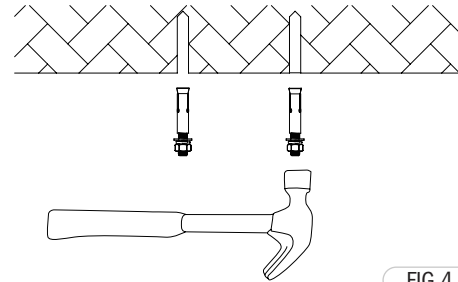

FIG.4
- 2 Insert the screw into the drilled hole using a hammer, as depicted in (Figure 4).